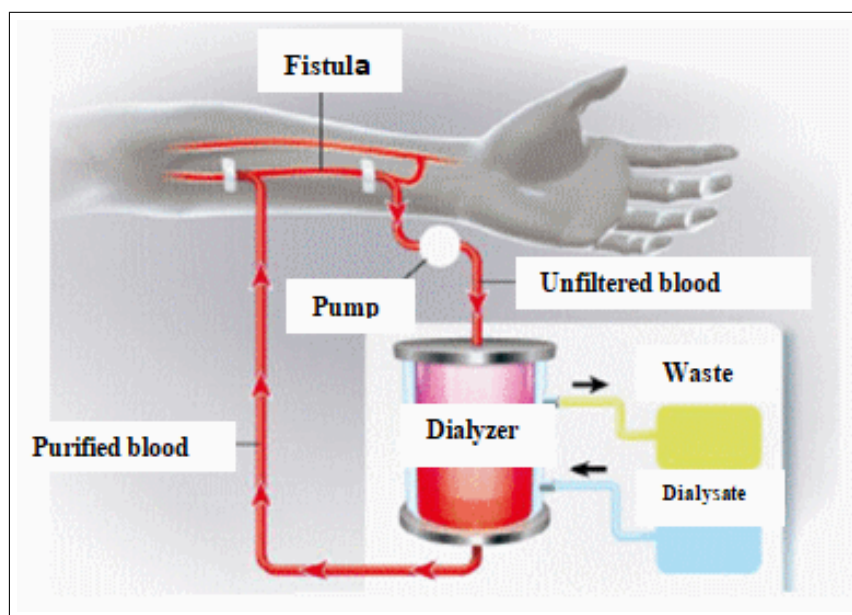

Figure 4.4: Hemodialysis
* The patient is connected to a large machine called a dialyzer (artificial kidney) (Figure 4.4).